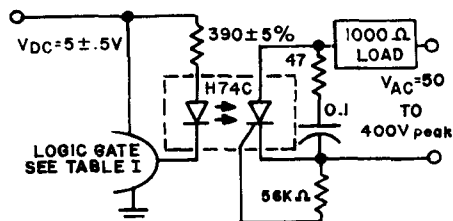

Figure 1. H74C BIAS CIRCUIT
*All specifications refer to the following bias configuration (Figure 1) over the full operating temperature (0°C to 70°C) and logic supply voltage range (4.5 to 5.5V_{DC}) unless otherwise noted.